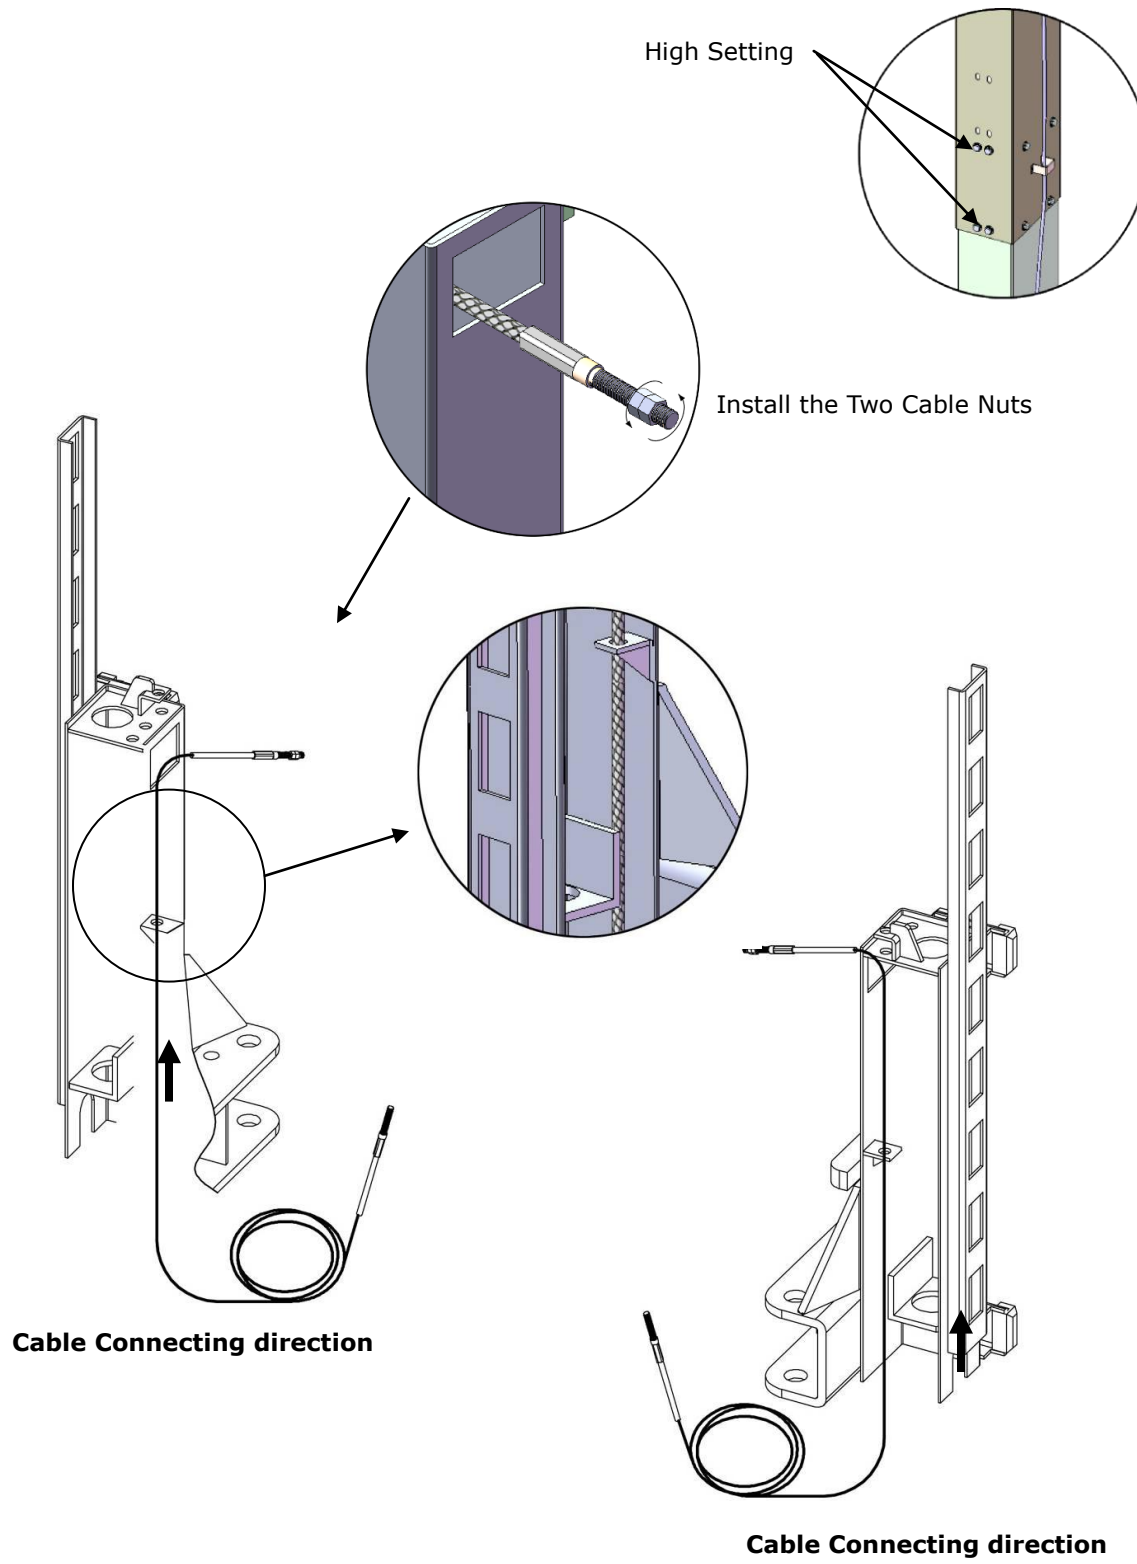

Fig. 24
b. For the high setting cable connection (**See Fig. 24**).